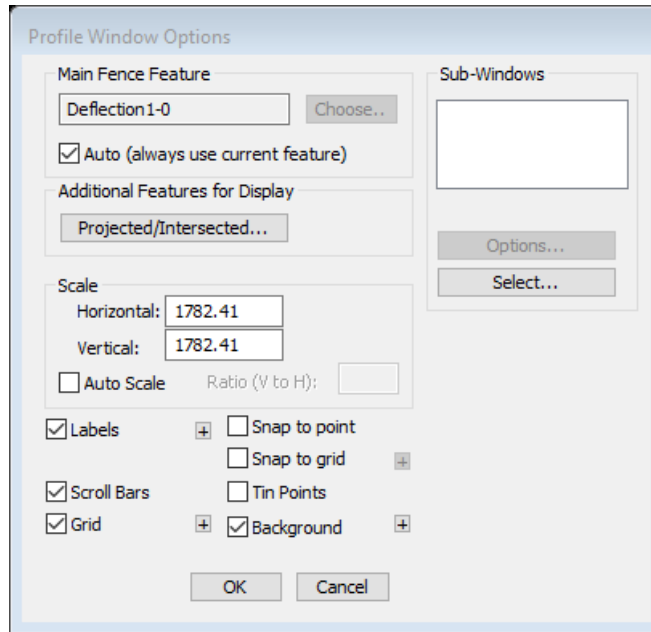

Figure 12-22: The Profile Window Options dialog box.
8. Right click in the profile window and select *Active Window (Profile) Options* and the *Profile Window Options* dialogue box will appear as shown in Figure 12-22 below.